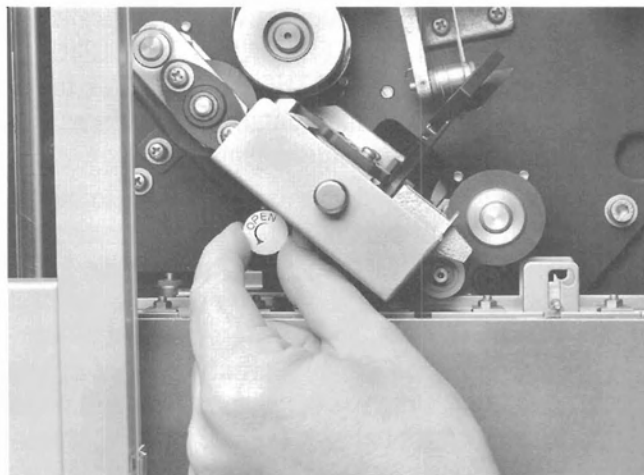

Figure 2-3
11. Fill the xylene line by turning the xylene adjustment knob 2-3 full turns counterclockwise (Figure 2-3) and pressing the XYLENE CHECK keypad until xylene is dripping through the xylene spout without any air bubbles. Once all air is removed from the line, turn the xylene adjustment knob clockwise until it is completely closed. Then, *very gradually* turn the knob counterclockwise until an appropriate volume of xylene is being dispensed.